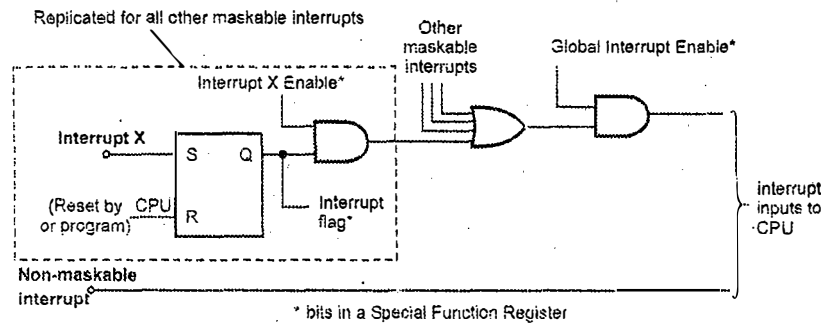

Fig. Q.10.2 General interrupt structure
**Interrupt Structure :** The general block schematic of Interrupt structure is shown in Fig. Q.10.2.